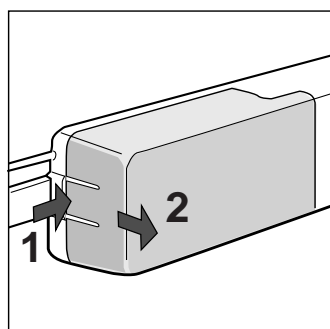

Fig. 6
- How to replace the internal lamp. The lamp for the internal light is situated at the rear of the thermostat box. To replace it, disconnect the appliance from the electricity mains, unscrew the faulty lamp and replace it with a new one featuring a wattage no higher than that indicated on the protection (15 W or 25 W), as illustrated in figure 6.